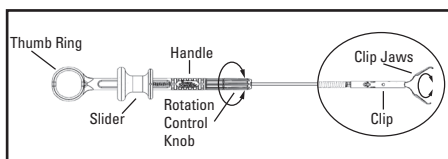

Figure 3. Rotating the Handle
2. If additional positioning is desired, the clip may be rotated in either of the following two methods (see Figure 3):